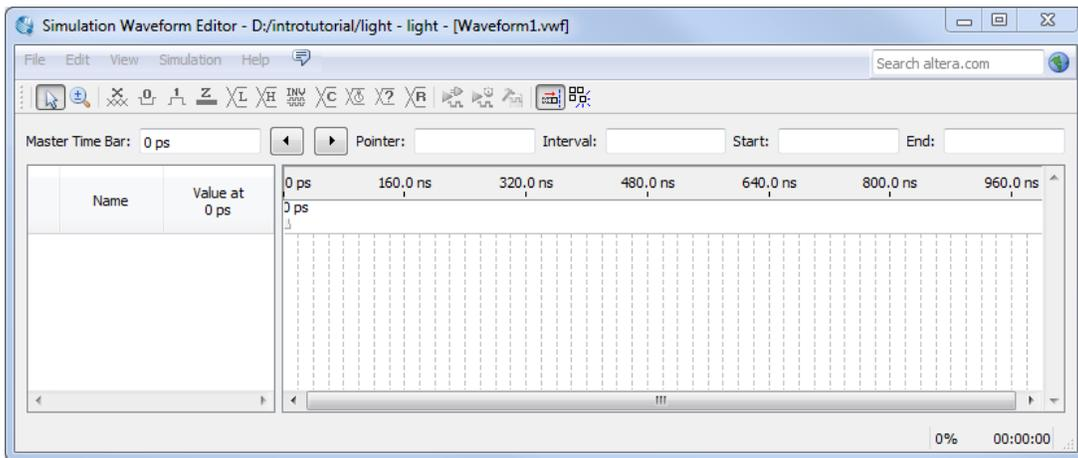
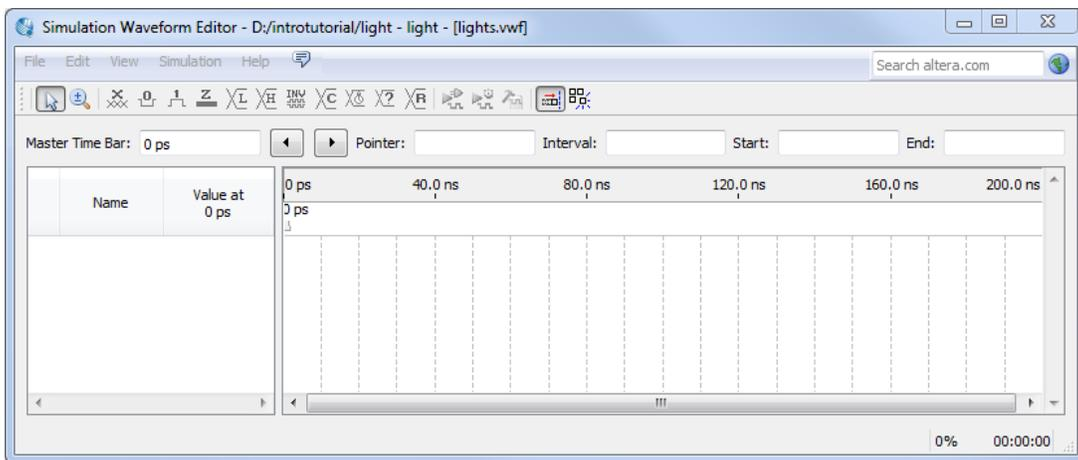

Figure 30. The Waveform Editor window.
Figure 31. The augmented Waveform Editor window.
2. The Simulation Waveform Editor window is depicted in Figure 30. Save the file under the name *light.vwf*; note that this changes the name in the displayed window. Set the desired simulation to run from 0 to 200 ns by selecting **Edit > Set End Time** and entering 200 ns in the dialog box that pops up. Selecting **View > Fit in Window** displays the entire simulation range of 0 to 200 ns in the window, as shown in Figure 31. You may wish to resize the window to its maximum size.